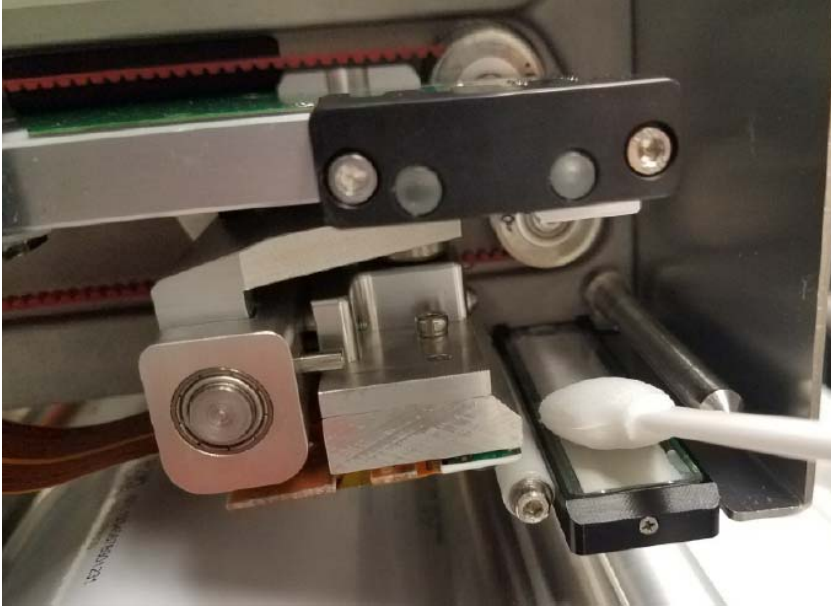

Figure 7-2: Lightbox Cover Cleaning
5. Clean the lightbox cover (Figure 7-2) with back and forth movements using the cleaning swabs or wipes provided with the printer. The cleaning kit will contain Videojet approved pre-soaked cleaning wipes or swabs.